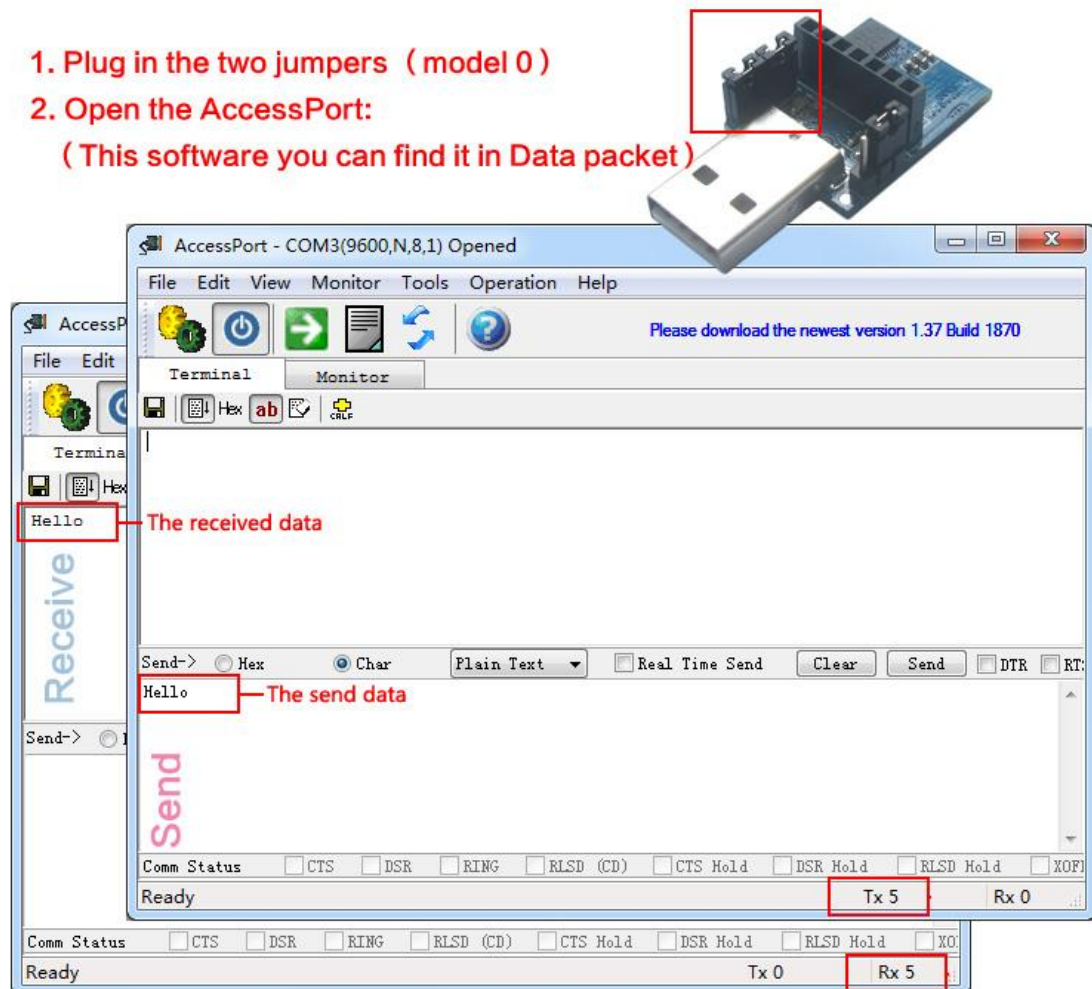

Figure 7: The testing of transmit and receive data
- Then observe the send window & corresponding receive window. See Figure 7.